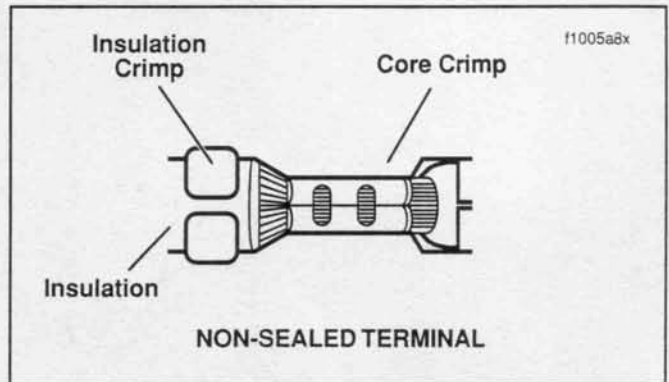

Figure A-18. Inspect Core and Insulation/Seal Crimps
3. See Figure A-18. Determine the correct dye or nest for the core crimp based on the information presented in the Crimp Tables.
8. See Figure A-18. Determine the correct dye or nest for the insulation/seal crimp based on the information presented in the Crimp Tables.
11. Inspect the quality of the core and insulation/seal crimps. Distortion should be minimal. See Figure A-18.